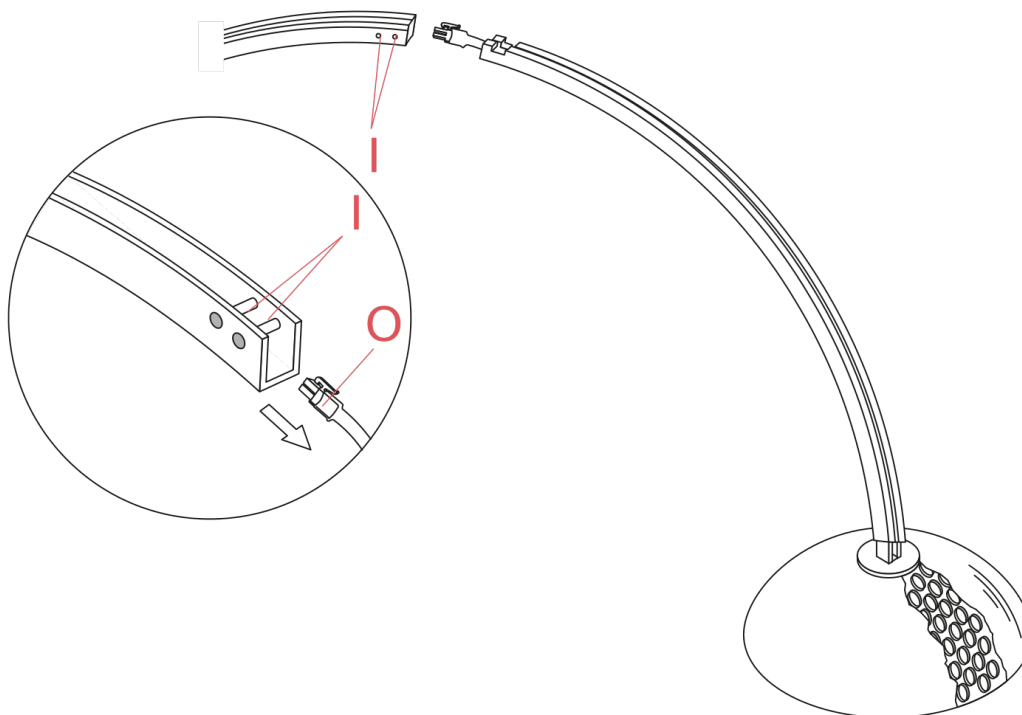

Fig.4
Joint the channel together through the pins (I) according to the desired position. (Fig.4 page 6)